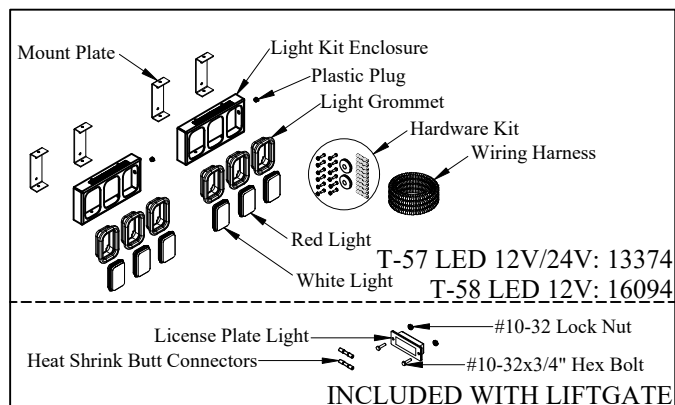

Figure 1: Part Identification.
1. **Verify** kit (Figure 1, Table 1).
2. **Locate** the license plate light and mounting hardware in the maintenance manual kit (Figure 1, Table 1).